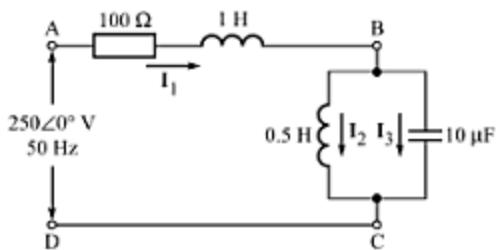

Fig. C-69
- C-115.** For the circuit shown in Fig. C-69 determine (a) the impedance, (b) the current I_1 , (c) the current I_2 ,